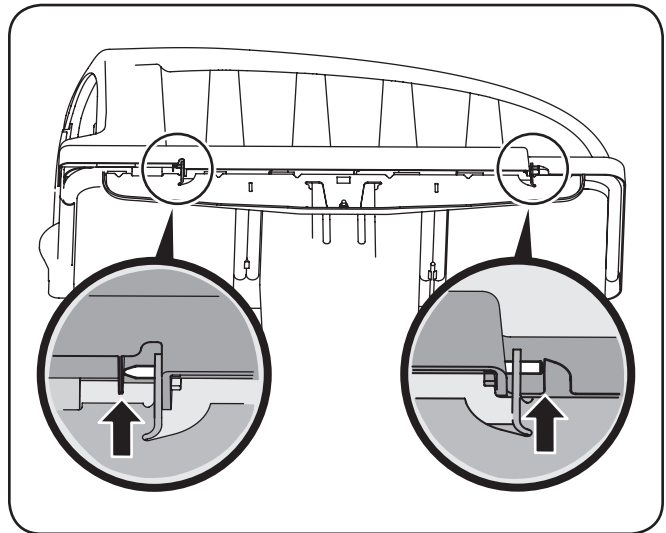

**Figure 4-10**
- Slide the hinge pin into the hole located on the mounting tab, as in Figure 4-10. Use the cut-out window (See inset in Figure 4-10) to line up the hinge pin on the other side and push pin all the way in until it reaches the end-stop. At this point the pin clips into place and is secured by a tab in the bagger cover. See Figure 4-11.